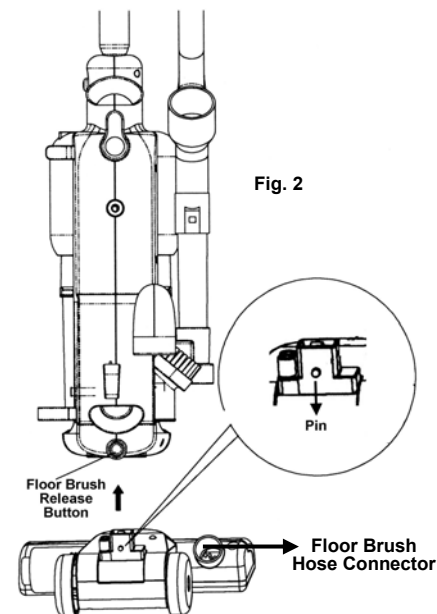

Fig. 2
- Insert the floor brush into its location at the bottom of the main unit, in the direction of the arrow. (Fig. 2)